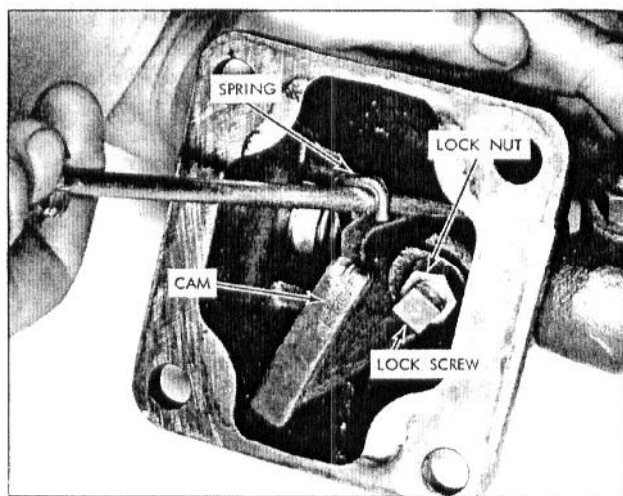

Fig. 24 - Differential Lock Arm Return Spring Removal or Installation
- b. Release the spring hook from the differential lock cam shoulder as shown in Fig. 24.
3. Install the diff. lock pedal shaft, cam, and spring in the housing. Refer to Fig. 24.
- a. Insert the pedal return spring and cam in the housing and locate as shown in Fig. 24.
- d. Hook the return spring over the cam. Refer to Fig. 24.